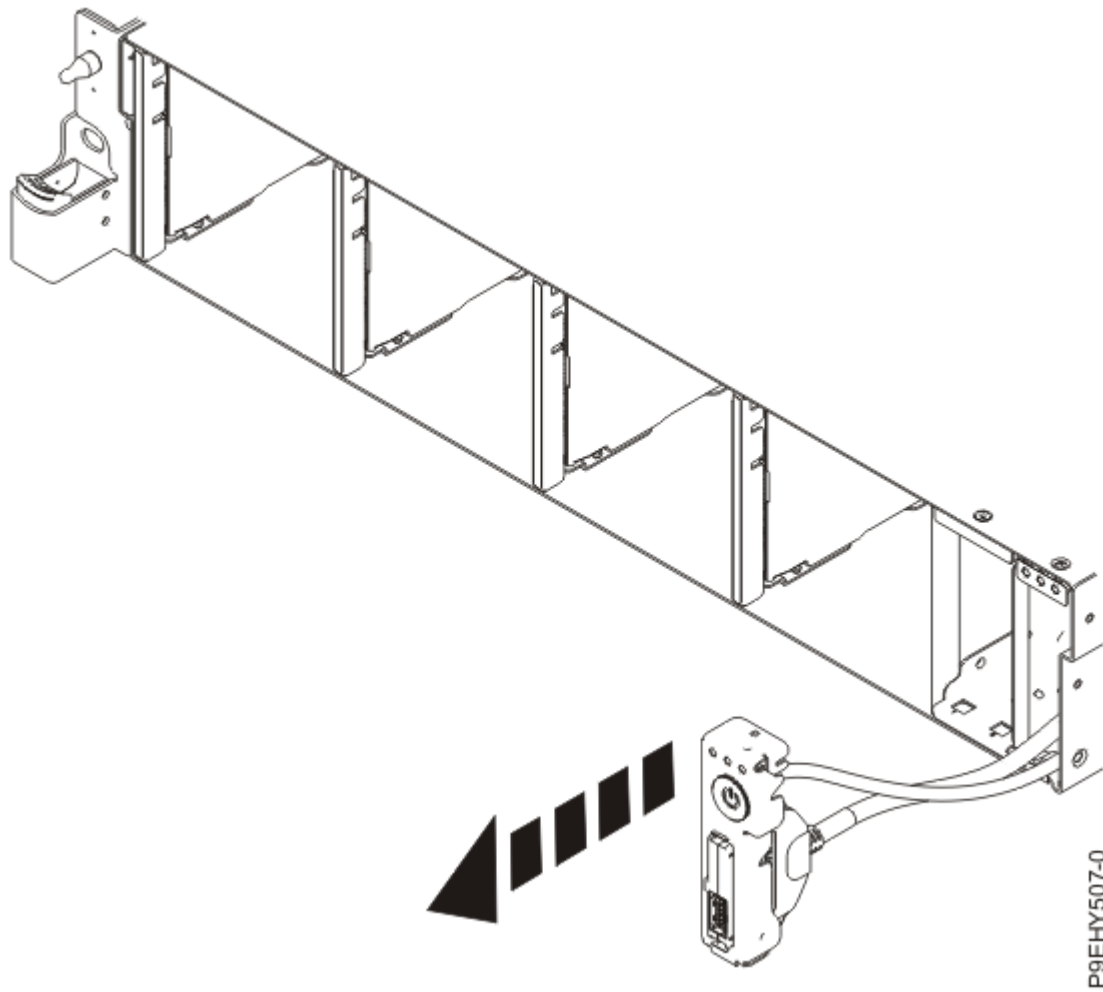

Figure 171. Pull out the power switch and cable
8. Pull the power switch from the system as shown in Figure 171 on page 188.